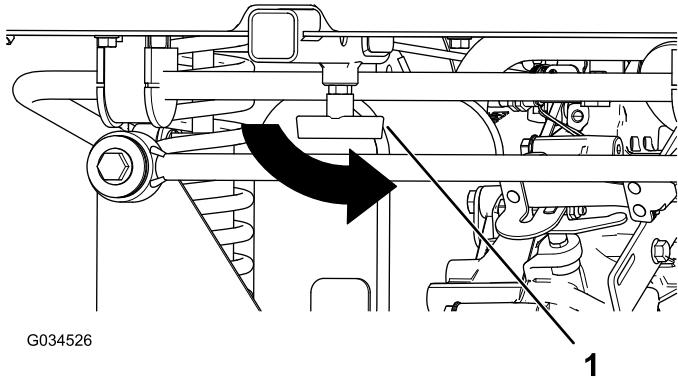

Figure 9
8. Tighten the "T" handle on the receiver tube (Figure 9).